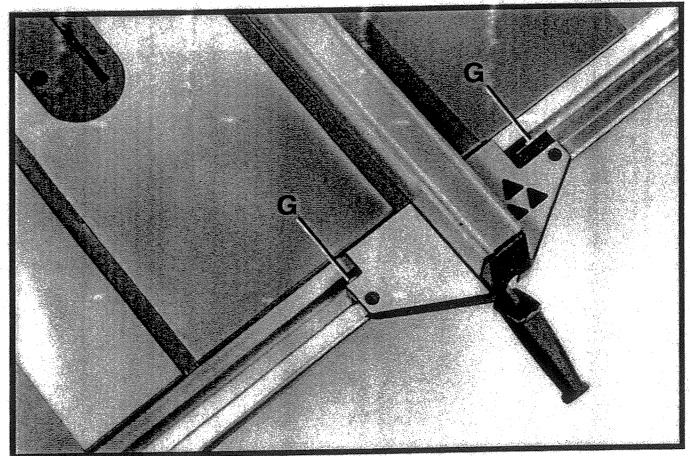

Fig. 29
4. If an adjustment is necessary, tighten or loosen either of two screws (G) Fig. 29, until the rip fence is parallel with the miter gage slot.